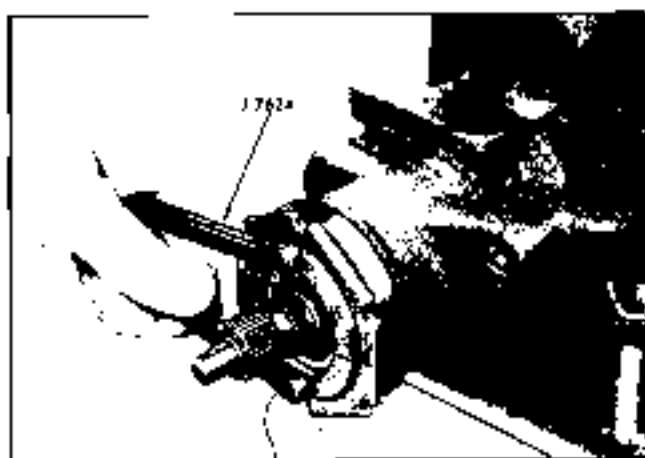

Fig. 9-60 Removing Adjuster Plug Assembly
- Remove adjuster plug assembly, using a spanner as shown in Fig. 9-60.